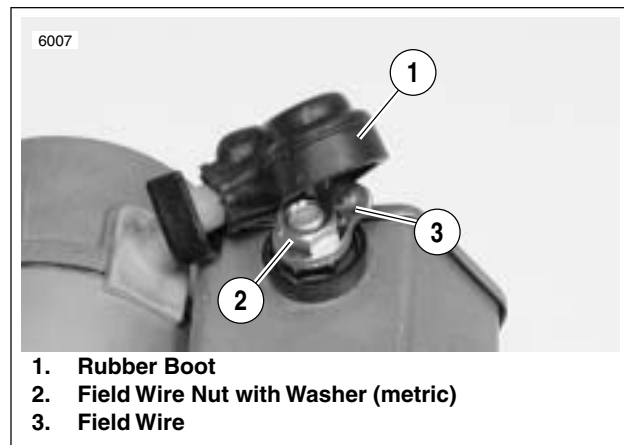

Figure 5-15. Field Wire
1. See Figure 5-15. Lift rubber boot (1). Remove field wire nut with washer (2) (metric) to detach field wire (3).